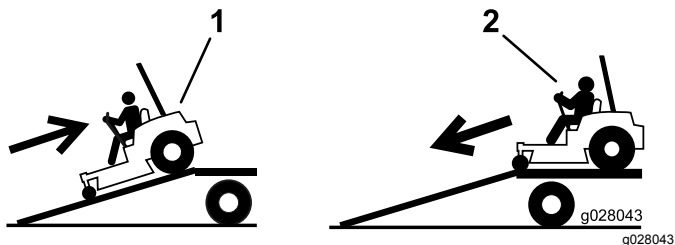

Figure 38
4. Back the machine up the ramp (Figure 38).
2. Drive the machine forward down the ramp (Figure 38).